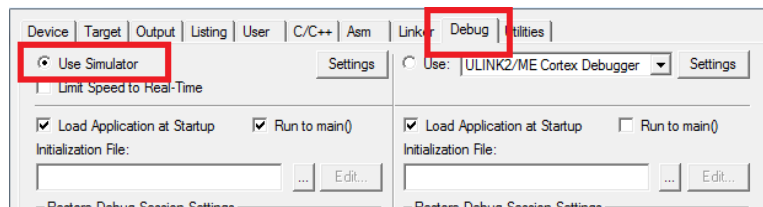

Figure 1.4: Keil IDE: Simulator Debugger Configuration
- the simulator is used (see Figure 1.4).